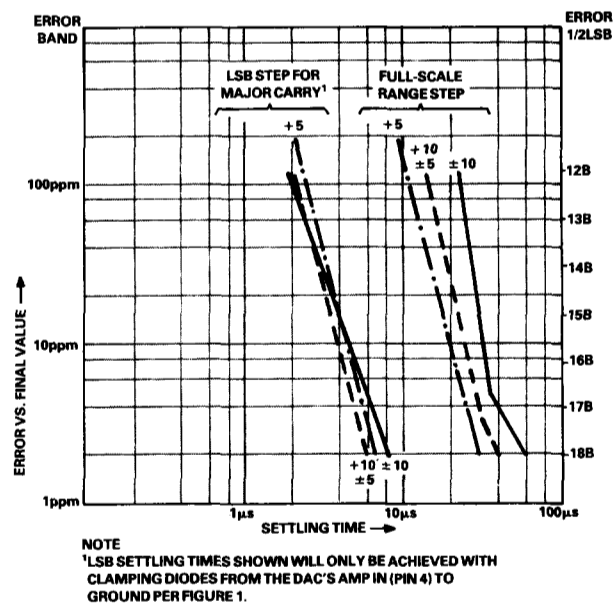

Figure 9. Settling Time vs. Resolution
- ⁵Figure 9 provides typical LSB and full-scale settling time to within 1/2LSB at 12- to 18-bit resolutions.
Figure 9 graphically presents the typical settling times to within $\pm 1/2\text{LSB}$ at resolutions from 12 to 18 bits.